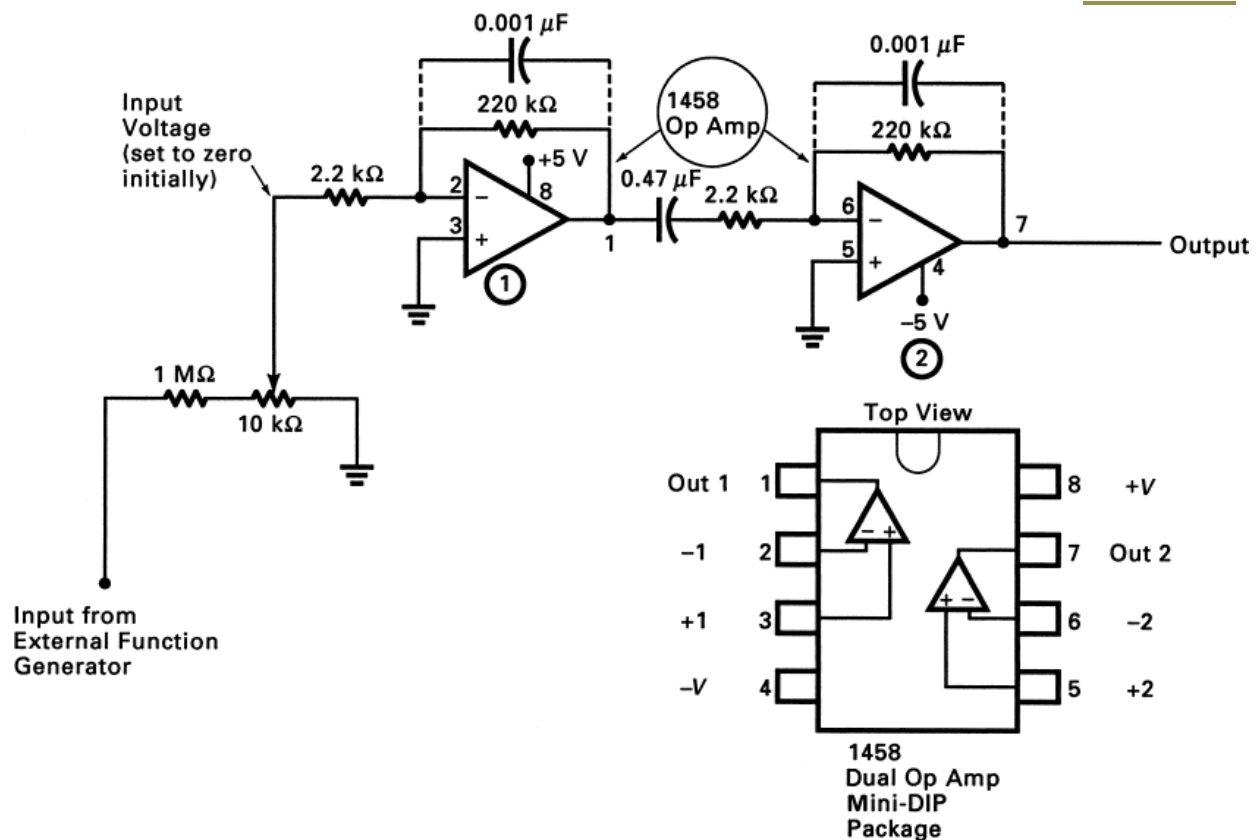

Fig. 9-1 Amplifier circuit to demonstrate noise and its measurement.
1. Construct the circuit shown in Fig. 9-1. Use the carbon composition rather than the film resistors when constructing the circuit. For the initial steps, omit the $0.001\text{-}\mu\text{F}$ capacitors from across the $220\text{-k}\Omega$ feedback resistors. Keep all leads as short as possible to reduce 60-Hz power line noise. Adjust the $10\text{-k}\Omega$ pot so that the input voltage is zero. You will observe the output from the second op amp at pin 7.
2. Knowing the gain formula of an operational amplifier inverter, calculate and record the gain of each op amp stage in Fig. 9-1 and the overall circuit gain.
16. Turn off the power and rewire the circuit with the MC3403 or TL074 BIFET op amps. Refer to the data sheets to obtain pin connections, because they are different from those shown in Fig. 9-1.